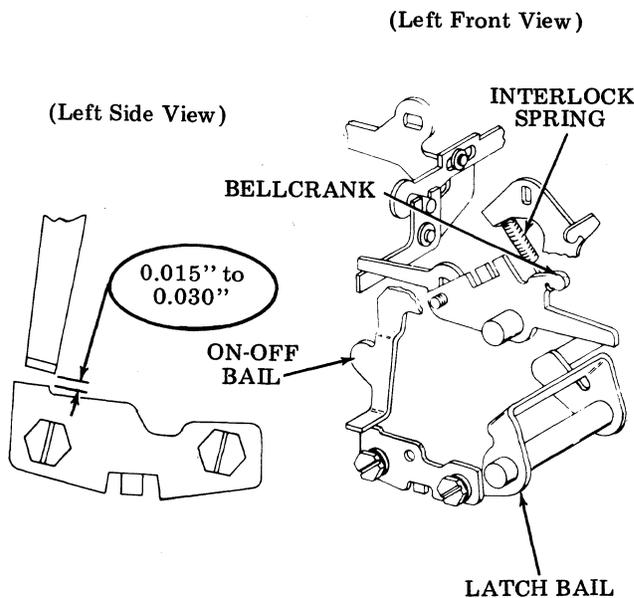

Figure 8 - Lever and Latch Bail Gap Adjustment (185703 Modification Kit)
- 2.39 Adjustments and spring tension peculiar to the 185703 modification kit are shown in Figures 8 and 9.